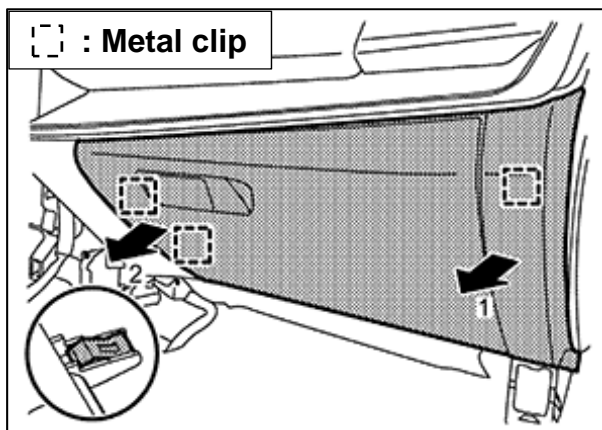
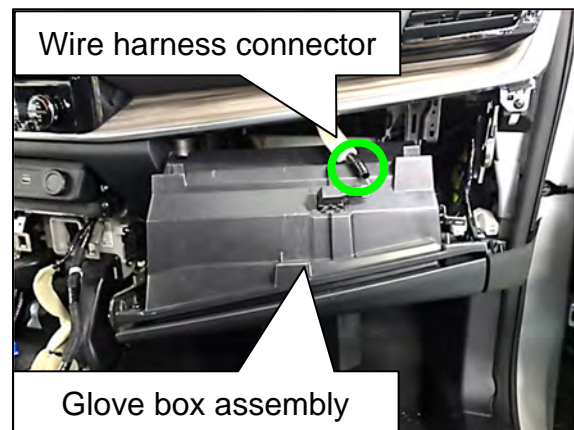

Figure 53
Figure 54
37. Disengage the three (3) glove box fixing metal clips, as indicated by the arrows shown in Figure 53, and then remove the glove box, as shown in Figure 54.
- If equipped, disconnect the wire harness connector (Figure 54).